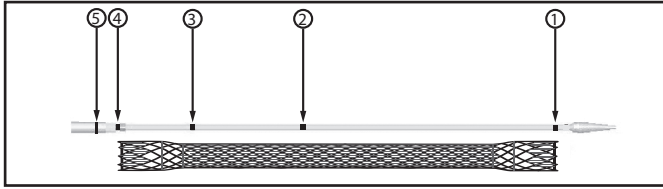
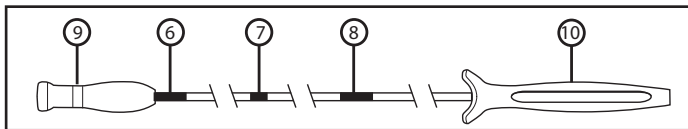

Figure 2. Delivery System and Radiopaque (RO) Markers
Figure 3. Delivery System, Visual Markers and Handles
There are three visual markers on the delivery system handle to aid in stent placement while using endoscopic visualization (Figure 3). The most distal visual marker indicates the stent is fully constrained on the delivery system (Figure 3 #6), one visual marker indicates that the stent is 50% deployed (mid-point) (Figure 3 #7) and the most proximal visual marker indicates the point at which stent reconstraint is no longer possible (Figure 3 #8).
There are five radiopaque (RO) markers to aid in the deployment of the stent while using fluoroscopy (Figure 2). There are two RO markers on the inner tube of the delivery system identifying the ends of the constrained stent (Figure 2, #1 and #4). Between these RO markers are two additional RO markers. One RO marker indicates the mid-point of the stent (Figure 2 #2). One RO marker on the interior tube indicates the point at which stent reconstraint is no longer possible (Figure 2 #3). The fifth RO marker at the leading end of the exterior tube indicates how far the stent has been deployed (Figure 2, #5).
If using fluoroscopic guidance, position the stent so marker 2 (figure 2) is in the center of the tumor or fistula. This ensures that the stent will properly bridge the tumor.
Begin stent deployment by holding the distal handle (farthest from the operator, Figure 3 #9) of the delivery system with one hand, and using the other hand, grasp the proximal handle (closest to the operator, Figure 3 #10) and hold this handle stationary. Between the handles is a segment with visual markers. These visual markers are intended to aid in stent deployment. Prior to deploying the stent, you can visualize a marker at the fully constrained/undeployed position (Figure 3 #5).
In order to deploy the stent, hold the distal handle (farthest from the operator, (Figure 3 #9) with one hand and the proximal handle (handle closest to the operator, Figure 3 #10) with the other hand. To deploy the stent, slowly pull the distal handle toward the proximal handle while holding the proximal handle stationary. Monitor the stent release fluoroscopically and/or endoscopically, keeping the markers on the delivery system between the identified stricture margins. If necessary, it is possible to stop deployment and adjust the stent position proximally without reconstraining the stent prior to passing the reconstraint marker (Figure 3 #8). If satisfied with stent placement, proceed with full deployment.
- The stent can be reconstrained at any point up to the reconstraint markers (radiopaque Figure 2, #3 and visual Figure 3, #8).
Note: The stent is fully constrained if visual marker (Figure 3, #6) is fully visible.
- C. Re-sheath the exterior tube of the delivery system by pushing the distal handle (Figure 3 #9) away from the operator. Slowly withdraw the delivery system and guidewire.